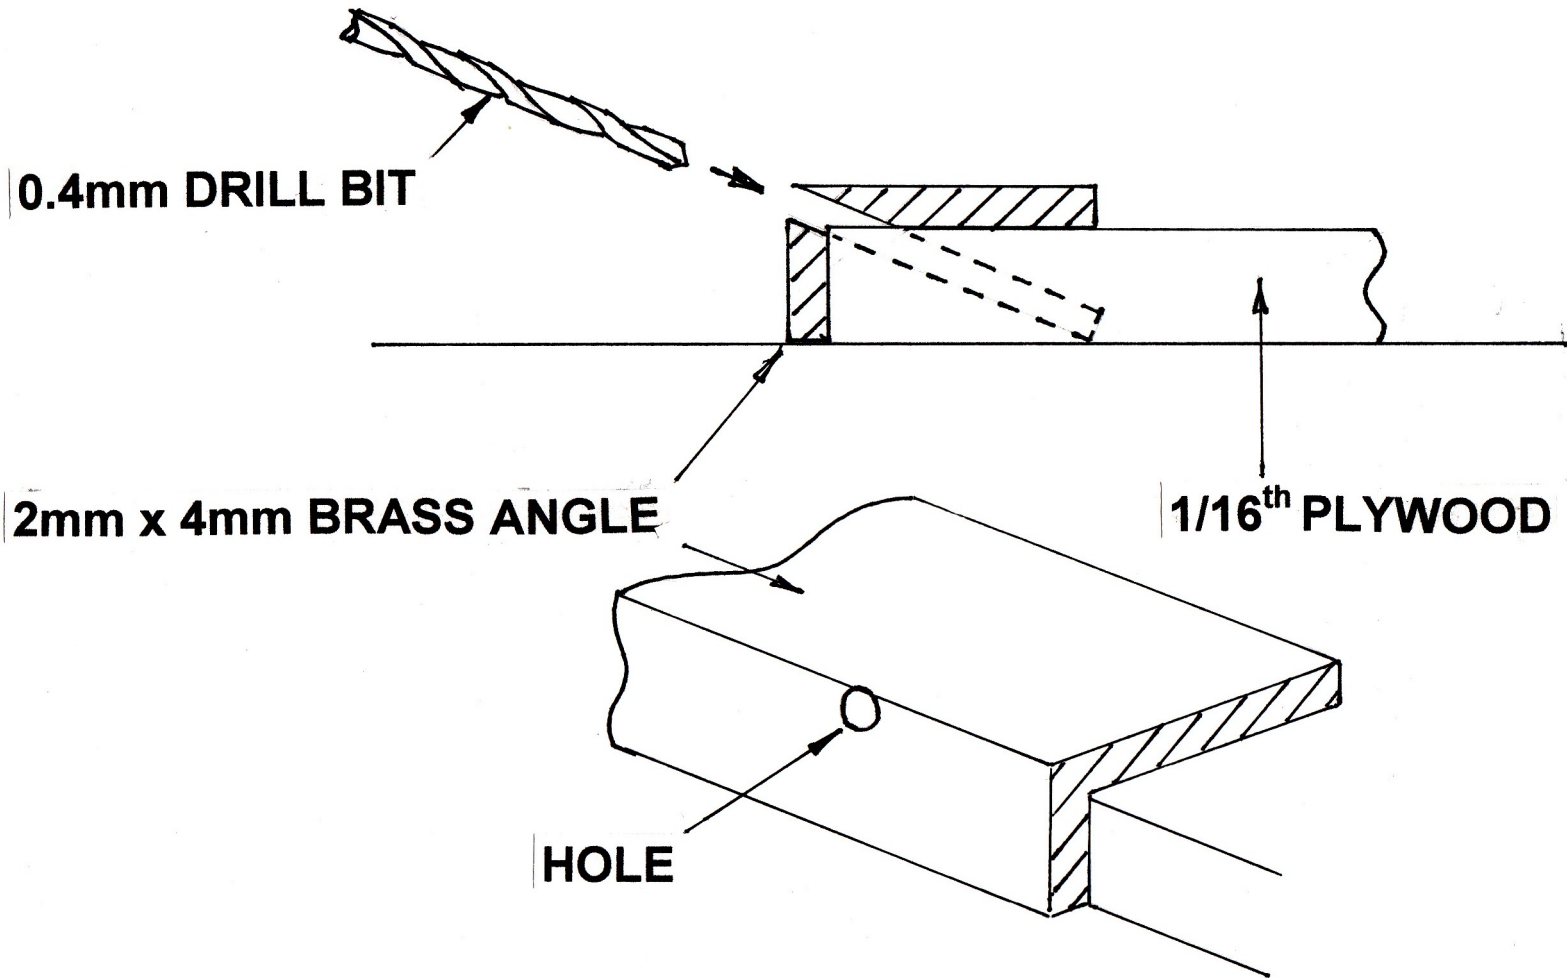

Figure 4
0.8mm hole for the n/s rod. As they are purely cosmetic, they are soldered onto the face of the headstock with a thin packing piece behind. It gives the impression there is a gap behind them. The two drop down footboards were the next items to make. As they would be made actually to drop down, I had no idea as to their precise width. When folded back, the leading edge must clear the bottom of the large gearwheel (nearest the camera) on the side of the crane body. So jumping the gun slightly, a start had to be made on the moving crane body proper. With Francis`s drawings, he estimated the overall width as 37mm wide over the wrap round flanges. At the time of writing (Nov 2016), the basic frame has been completed and can rotate on the tapered column and base ring. Cardboard mock-ups of all gearwheels and pinions (to the same thickness as the 3D printed gearwheels) have also been fitted in their corresponding holes, along with the original jib mock-up. The widths of the footboards were estimated at 9mm x 70mm, so a mock-up was made. Happy with 9mm, two 1.5mm thick wood ply pieces (the same as the main decking) were cut out and scribed accordingly. Through past experiences of drilling holes in the correct position and at the correct angle i.e. the match truck toolbox lids, I made a small jig to help this time around. Using a long section of spare brass angle, in my case 2mm x 4mm, a 0.4mm hole was drilled out from the inside, again at the correct angle. After determining precisely where the holes had to be drilled (two in the footboard, and four in the decking), the over length angle section was firmly held in place (fingers and sticky tape) over the edges of the wooden pieces. The drill bit was then simply re-drilled through the pilot hole - see Figure 4 on the next page. With all holes drilled, the pre-cut No.14 fishing hooks were glued in place with Superglue. This was a difficult bit of modelling, getting everything lined up and level with the decking when folded down.